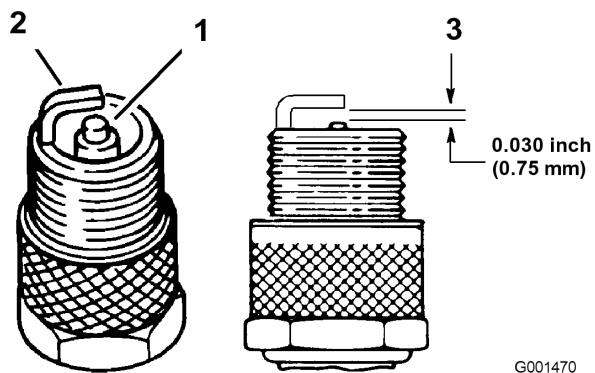

Figure 28
1. Look at the center of the spark plugs (Figure 28).
3. Check the gap between the center and side electrodes (Figure 28). Bend the side electrode (Figure 28) if the gap is not correct.
3. Connect the wires to the spark plugs (Figure 28).